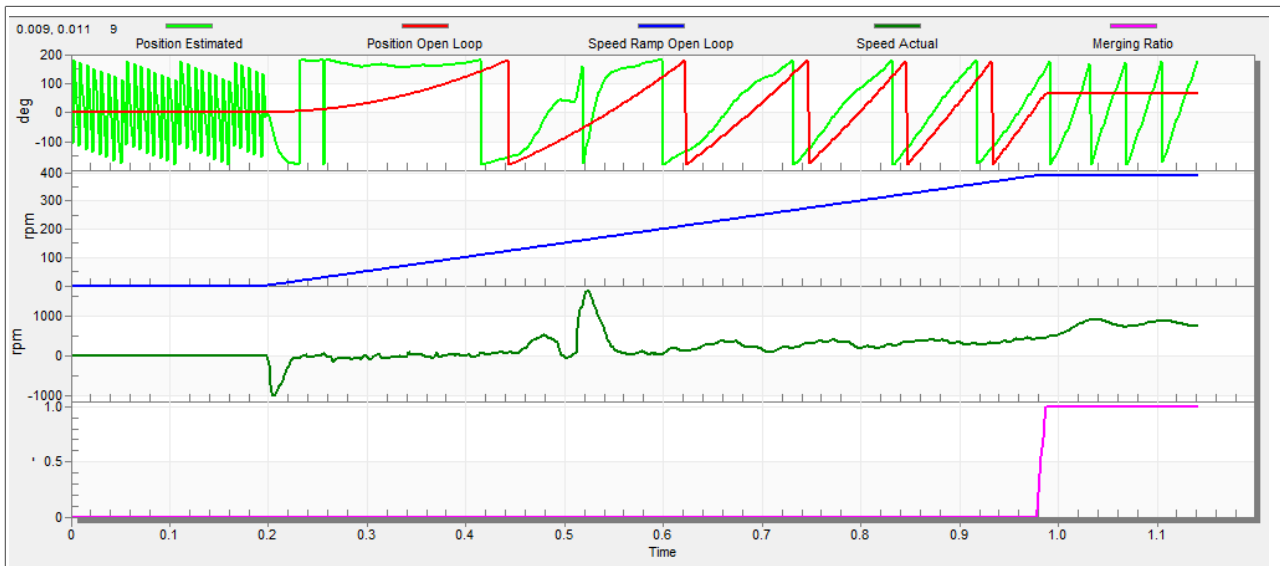

Figure 23. Motor startup
1. The start-up process can be tuned by a set of parameters located in the "Sensorless" tab. Two of them (ramp increment and current) are accessible in both tuning modes. The start-up tuning can be processed in all control modes besides the scalar control. Setting the optimal values results in a proper motor startup. An example start-up state of low-dynamic drives (fans, pumps) is shown in Figure 23.